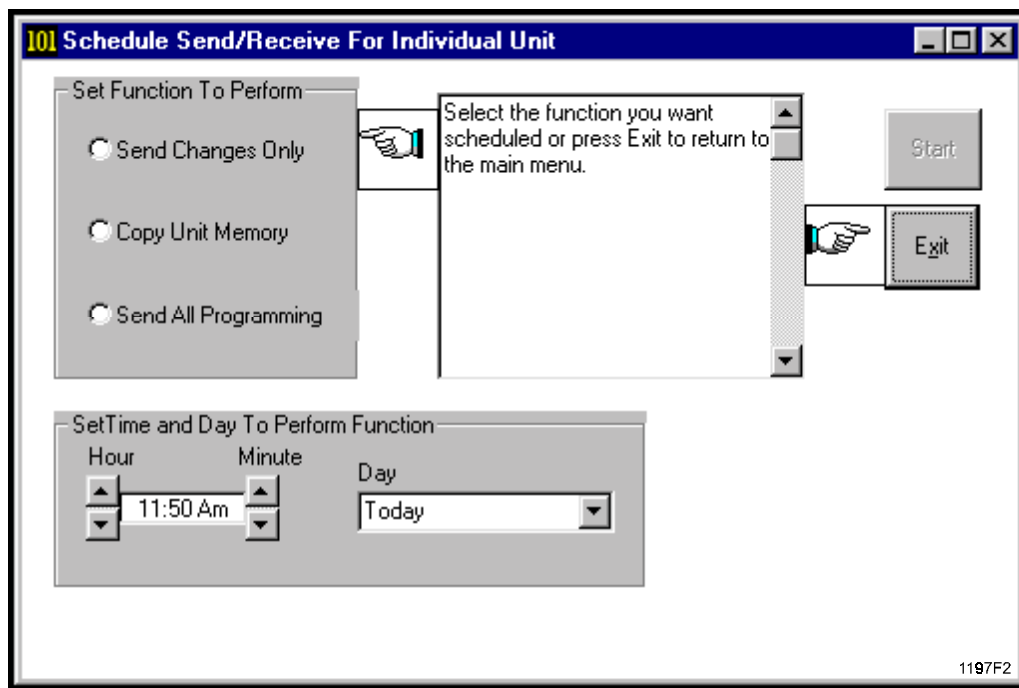

Figure 22. Schedule Send/Receive For Individual Unit
1. From the Work On An Existing Unit screen in the Add/Edit panel (figure 10), select the Schedule button. The Schedule Send/Receive For Individual Unit screen is displayed (figure 22).
2. From the Work On An Existing Unit screen, in the Add/Edit panel (figure 10), select the Schedule button. The Schedule Send/Receive For Individual Unit screen is displayed (figure 22).